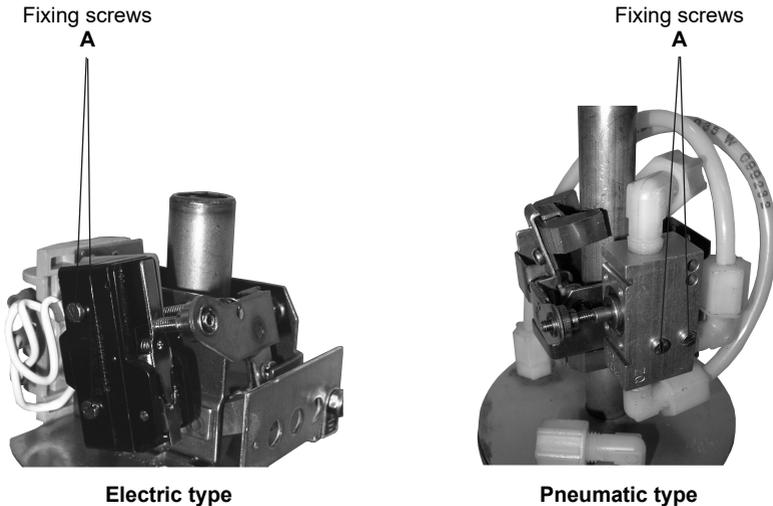

Fig. 6 - Switch mechanism
- 2 - Loosen the screw for fastening the mechanism (Fig. 6) and remove the latter from the enclosing tube.
Remove the fixing screws (see Fig. 6) and then the switch.
- 4 - Manually check the lever of the magnet holder ensuring that the switch opens and closes correctly. If necessary make adjustments with screw "C" (see Figs. 6 and 7).
Check that the adjusting screw "C" and the valve's control switch "E" are aligned (Figs. 6 and 7).